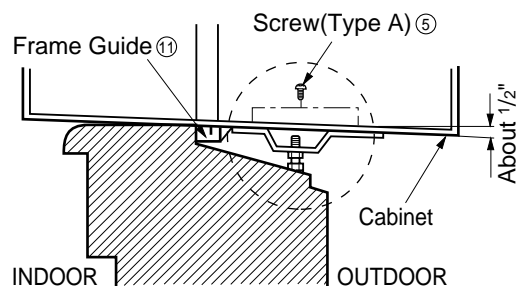

Fig. 4
4. Select the position that will place the Sill Support ② near the outer most point on sill (See Fig. 4)
5. Attach the Sill Support ② to the cabinet track hole in relation to the selected position using 2 -type A ⑤ screws in each support (See Fig. 4).